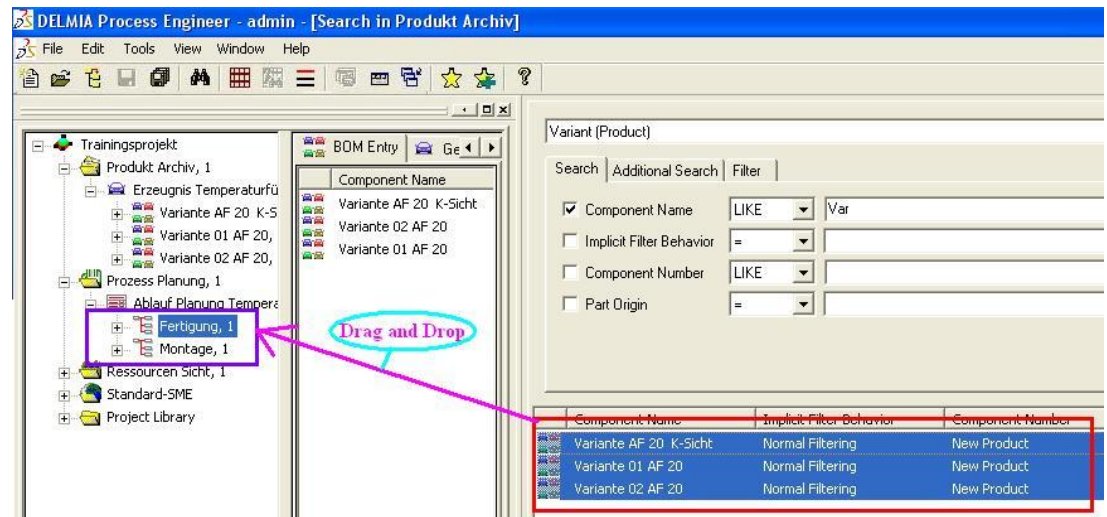

Figure 71: Create Link by Drag and Drop
- 1) Drag and drop finder result into PPR tree to create link between objects. The right side finder result contains product objects and left side PPR tree. Create link between product objects and process objects by drag and drop from finder (product objects) to PPR tree (process objects). Please refer to the Figure 71.